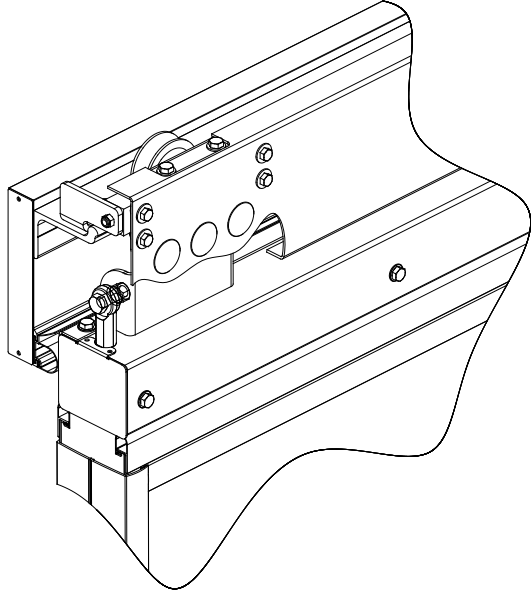

Figure 10: Panel Assembly attached to Header Assembly
2. Stand door up and attach to rail trolley with bolts or pins provided.(See figures 10 & 11)